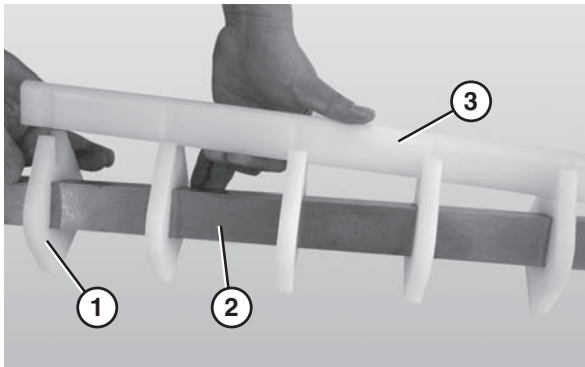

Figure 80
1. Slide the nose bar pucks (Figure 80, item 1) onto the nose bar drive post (Figure 80, item 2).
2. Attach the nose bar wear strip (Figure 80, item 3).